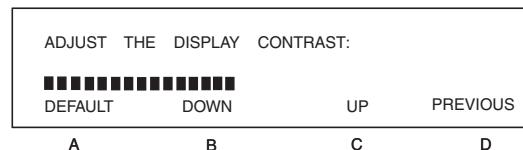

Figure 3-4 Display contrast menu
2. Press number 6, DISPLAY CONTRAST. The display contrast menu, Figure 3-4, will be displayed.